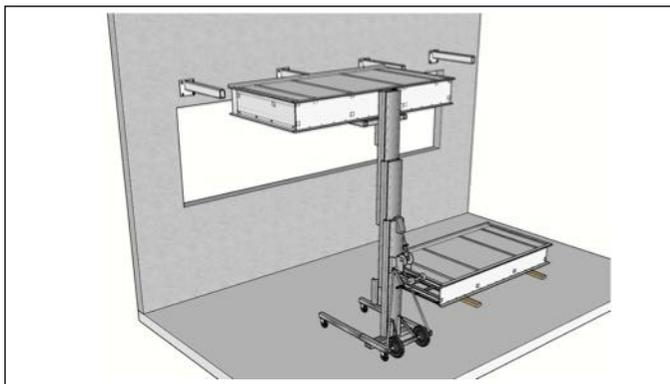
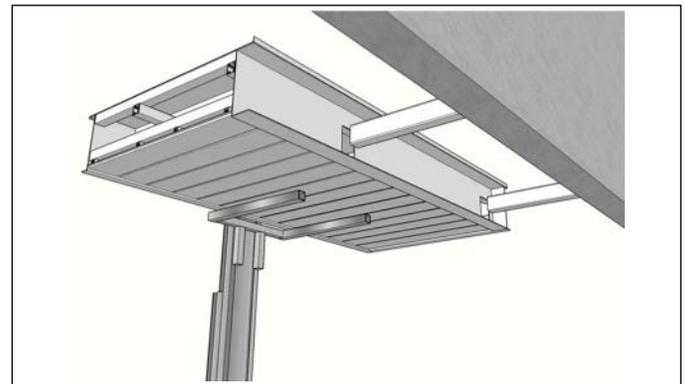

Fig 7
Fig 8
5. Place canopy on lift in front of the outriggers (Fig 7) lift up until lined up with outriggers. Slide canopy to the wall onto the outriggers through the holes in the back channel (Fig 8).